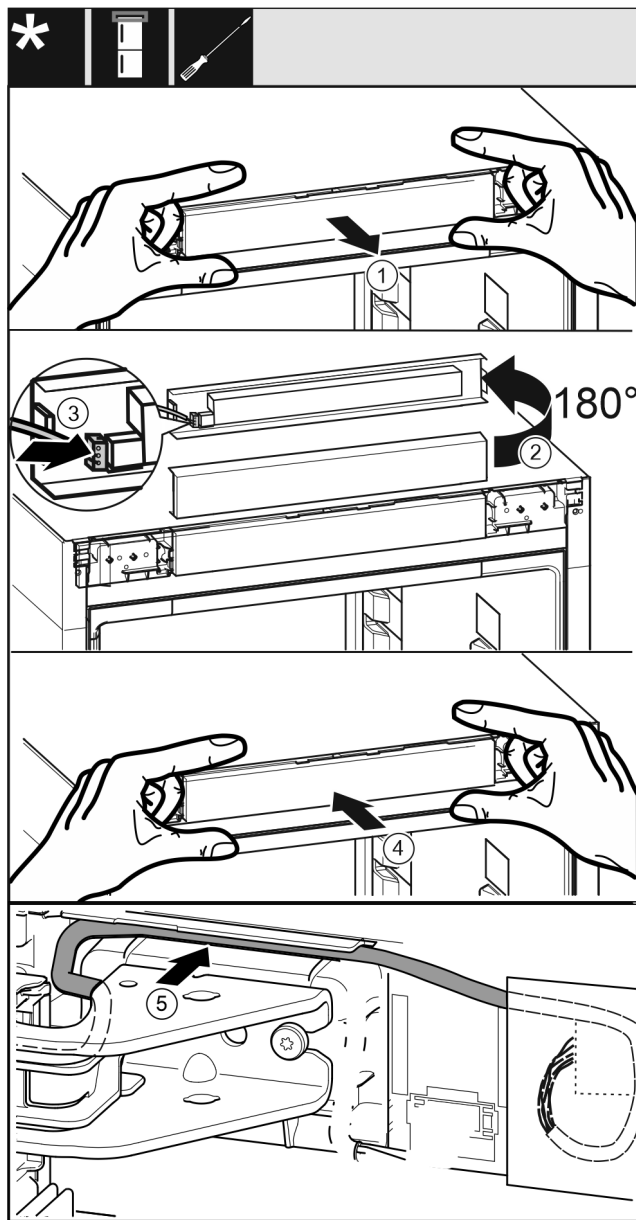

Fig. 43
- Carefully pull out the control plate Fig. 43 (1).
- Turn the control plate Fig. 43 (2) upward by 180°.
- Snap the plug Fig. 43 (3) into place on the control unit panel.
- Snap the control plate Fig. 43 (4) back onto the appliance.
- Carefully insert the cable Fig. 43 (5) into the guide above the top swap bearing block.